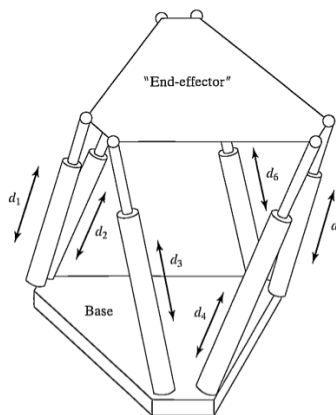

Figure 1: The Stewart mechanism is a six-degree-of-freedom fully parallel manipulator.
1. Use Grübler's formula to verify that the Stewart mechanism (Fig. 1) indeed has six degrees of freedom (10pts)